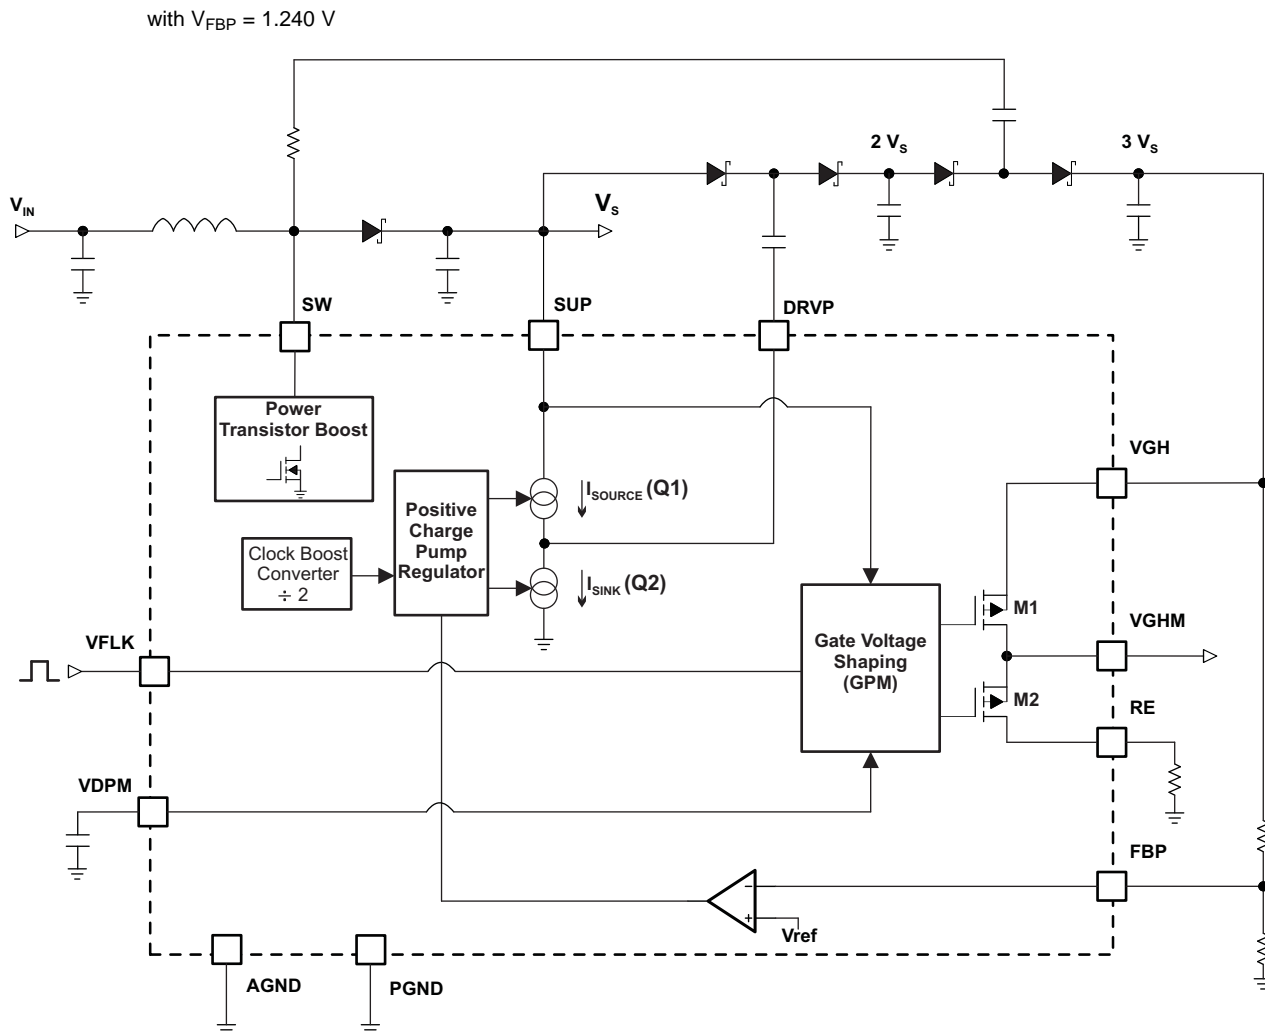

Figure 20. Positive Charge Pump regulator and Gate Voltage Shaping blocks
**Doubler Mode:** to use the positive Charge Pump in doubler mode configuration, the Schottky diode connected between the capacitor of DRVP pin and the 2.VS point has to be connected to the 3.VS point (see Figure 20).